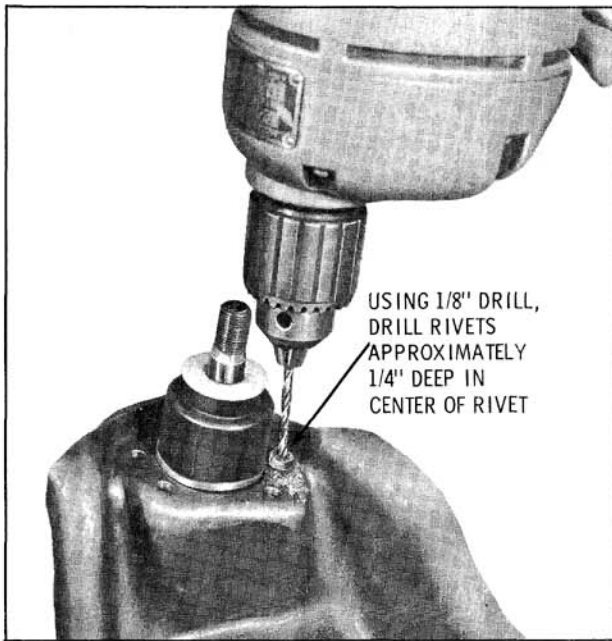

Fig. 9-128 Drilling Upper Ball Joint Attaching Rivets
2. Clamp control arm in a vise and drill four rivets 1/4" deep using an 1/8" diameter drill. (Fig. 9-128)